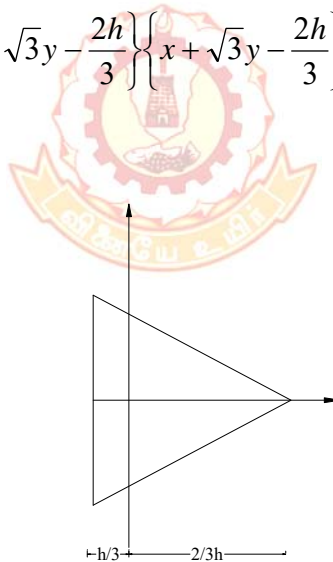

Figure-1
3. Solve for an equilateral triangle of side $2h/\sqrt{3}$ as shown in figure-1, the stress function